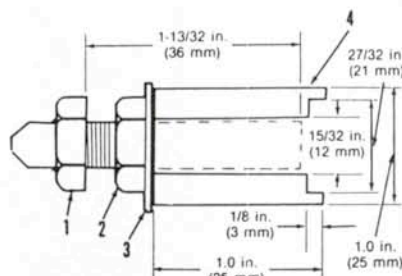

Fig. 98—Idler shaft removal tool can be fabricated using dimensions shown.
Remove snap ring (5—Fig. 97), thrust washer (4) and idler gear and bearing assembly (3). If renewal of idler gear shaft (2) is necessary, the engine must first be separated from transmission as outlined in paragraph 101. Remove clutch, flywheel, engine rear plate and rear main bearing cover. Push idler shaft rearward from engine block. A removal tool can be fabricated using a suitable size piece of pipe, a bolt, washer, nut and the dimensions shown in Fig. 98. Place guide tube (4—Fig. 99) over idler shaft (2) and position end of bolt (1) against block webbing, then turn the nut to force idler shaft out rear of block.